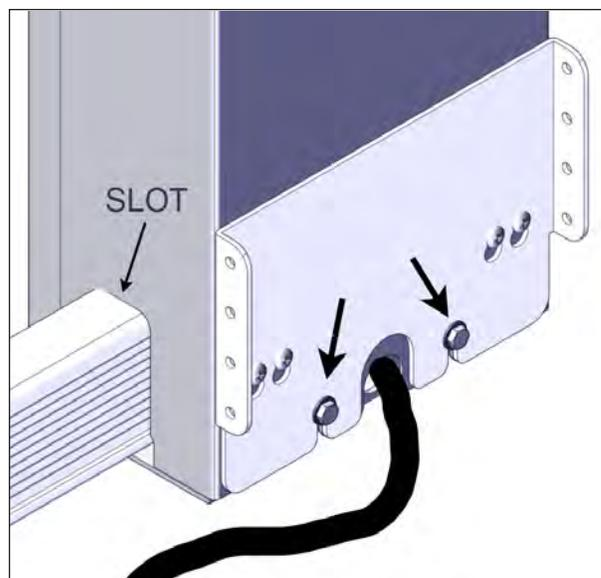

FIGURE 99: SLEEVE INSTALLATION
When sliding the sleeves over the jacks, ensure the slot at the bottom of the outer sleeve is going to slide over the U-frame that covers the drive shaft. There are right and left models for sleeves see Figure 99.
- Tighten 1/4" hexagonal screws at the bottom of all the sleeve base using a 7/16" (11 mm) socket wrench. Ensure that the washer is outside of the outer sleeve. This will ensure the sleeve is held correctly see Figure 99.